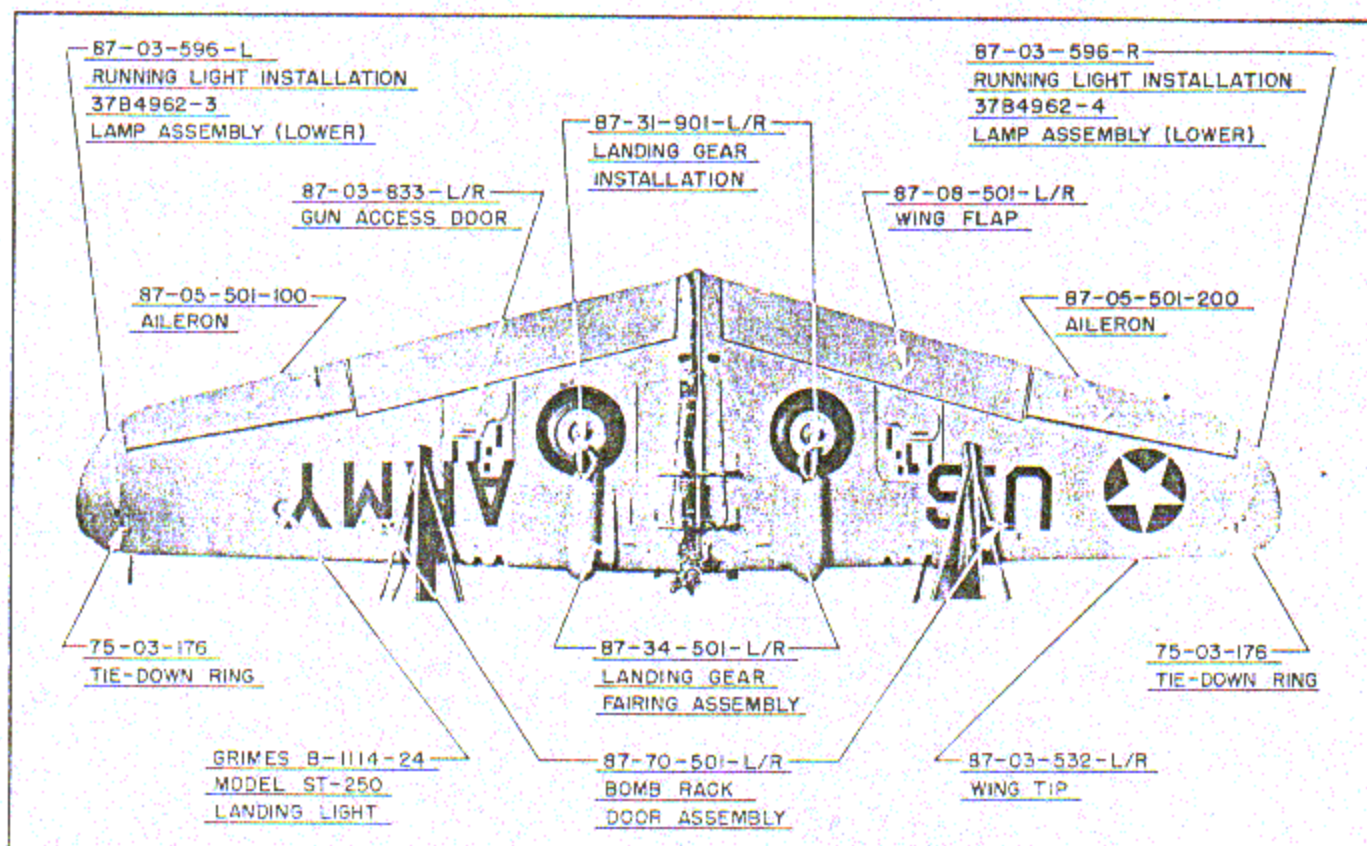

Fig. 21 - Wing assembly - bottom.
(4) To Install the Complete Wing (See Figure 21): Assembly of the wing to the fuselage is reversal of the procedure listed in paragraph 2., b. of this section. Additional information follows: